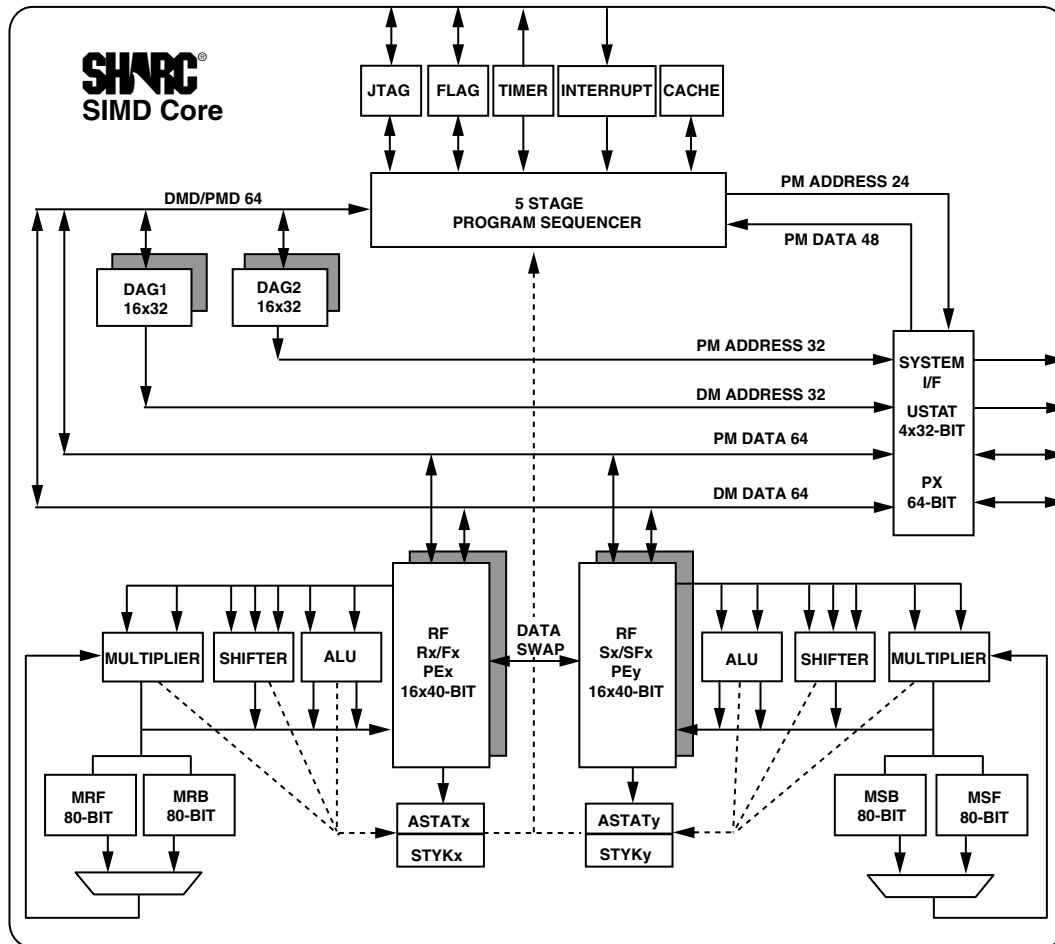

Figure 2. SHARC Core Block Diagram
The ADSP-21469 is code compatible at the assembly level with the ADSP-2137x, ADSP-2136x, ADSP-2126x, ADSP-21160, and ADSP-21161, and with the first generation ADSP-2106x SHARC processors. The ADSP-21469 shares architectural features with the ADSP-2126x, ADSP-2136x, ADSP-2137x, and ADSP-2116x SIMD SHARC processors, as shown in Figure 2 and detailed in the following sections.
The processors feature an enhanced Harvard Architecture in which the data memory (DM) bus transfers data and the program memory (PM) bus transfers both instructions and data (see Figure 2). With its separate program and data memory buses and on-chip instruction cache, the processor can simultaneously fetch four operands (two over each data bus) and one instruction (from the cache), all in a single cycle.